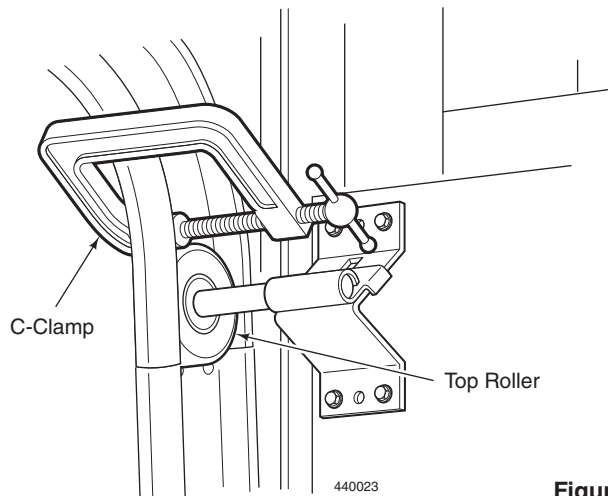

Figure 29
1. Maintain cable tension and prevent the Door from lifting by fastening a C-clamp, in both Vertical Tracks, directly above the Top Rollers. See Figure 29.